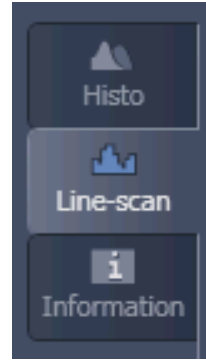

Fig. 9-14 Selection of Line Scan diagram
- Press **Continuous** to start a continuous scan. Press the **Line Scan** register (Fig. 9-14).